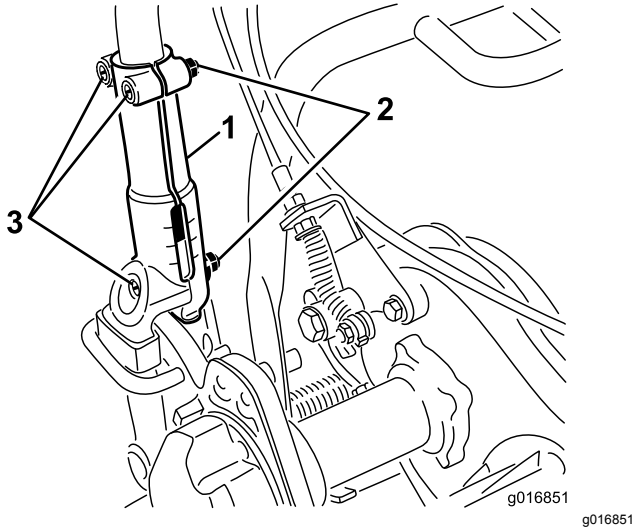

Figure 26
1. Loosen the 3 carriage bolts and nuts securing each side of the handle in the handle clamps (Figure 26).